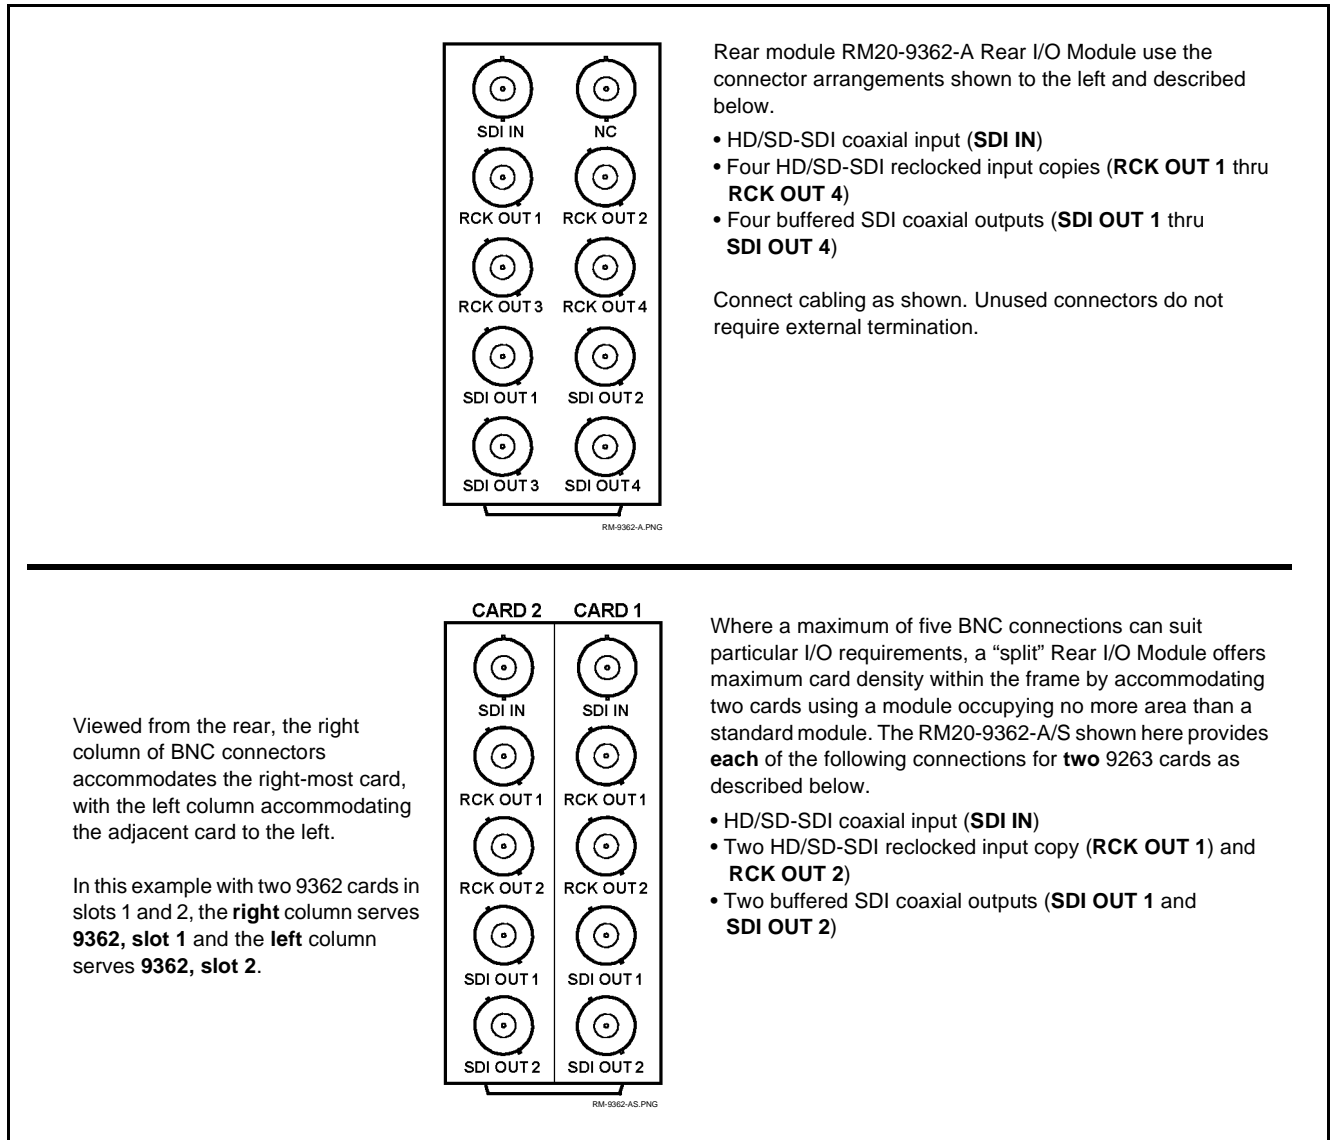

Figure 2-1 9362 Rear I/O Module Connections
8. Connect the input and output cables as shown in Figure 2-1.